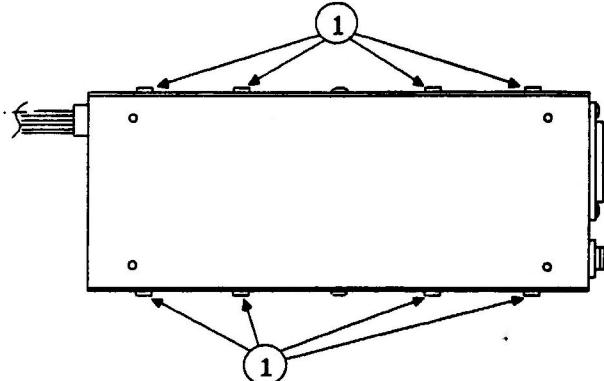

FIGURE 3
- g) Remove the eight screws (four on each side) that hold the bottom plate on (Figure 3, #1).